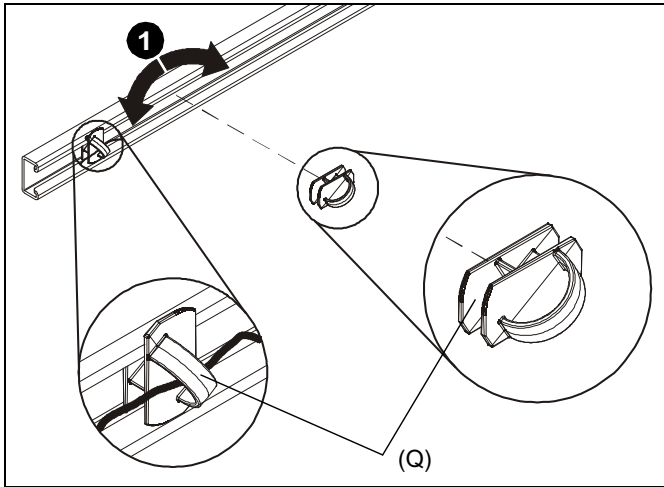

Figure 17
1. Place cable clip (Q) into rail/strut channel and turn 90° in either direction until cable clip is vertical. (See Figure 17)
3. Fasten cables and cords to cable clips (Q) using cable ties (P).